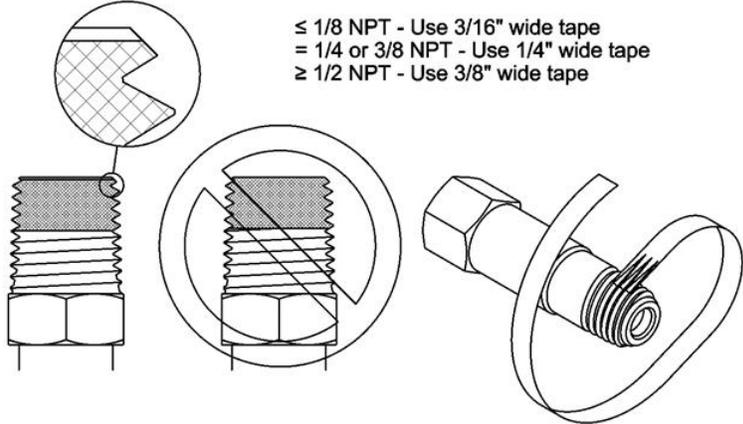

Figure 7 - Pictorial View of Tape Seal
Use an open-end wrench, not a pipe wrench, to install accessories to the AutoSwitch system. **ALWAYS hold the bulkhead fitting with a wrench when installing the accessories to the AutoSwitch system. Do not allow the bulkhead fitting to turn; otherwise, connections inside the box may be loosened.** NPT connections require the use of PTFE tape on the threads to make a gas tight seal (See Figure 7.). CONCOA uses PTFE tape on all of its NPT connections. Follow these rules when using PTFE tape.
- d. Start the PTFE tape on the first thread leaving a slight section of the chamfer exposed as shown in Fig. 7. Make sure the tape does not overlap the end of the fitting.